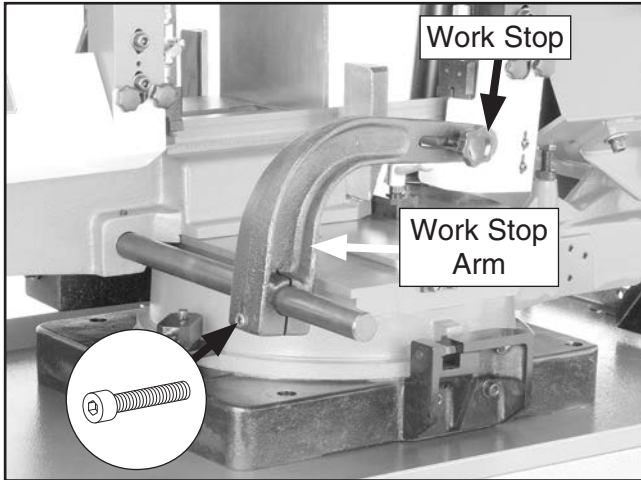

Figure 17. Work stop installed.
5. Slide work stop rod in hole in base of vise until it protrudes from hole on other side, then tighten (2) set screws shown in **Figure 17** to secure.
6. Slide work stop arm onto rod and tighten cap screw shown in **Figure 17** to secure.
7. Remove knob from work stop, insert work stop into arm, then secure with knob (see **Figure 17**).